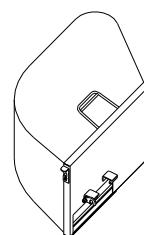

FIG 2
- Grass catcher: 100L, see FIG 2